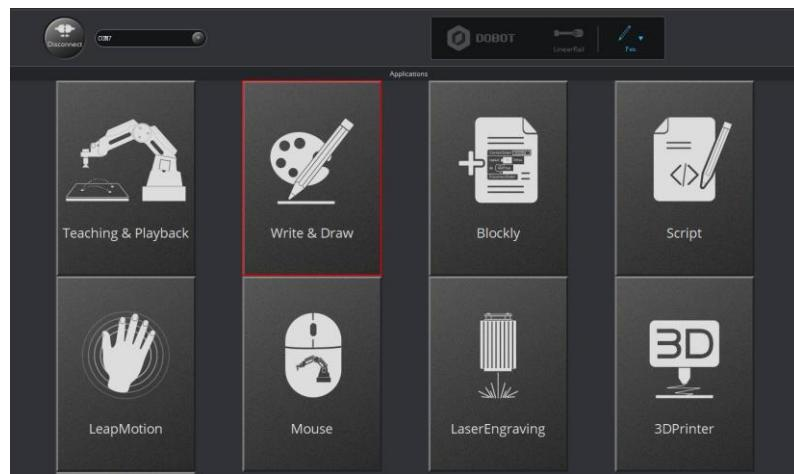

Figure 5.66 Click Write & Draw
**Step 3** Click **Write & Draw** module function, as shown in Figure 5.66.